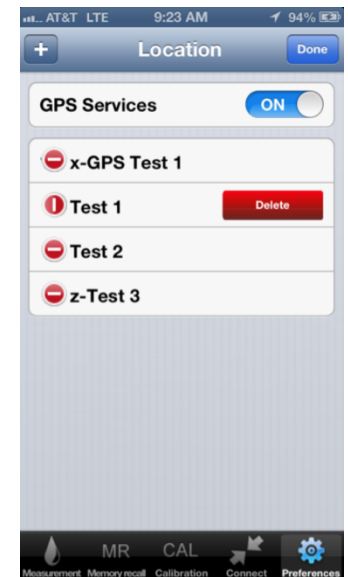

Figure 15
- There will be red circle with a white dash at the left edge of the location field (see Figure 15).